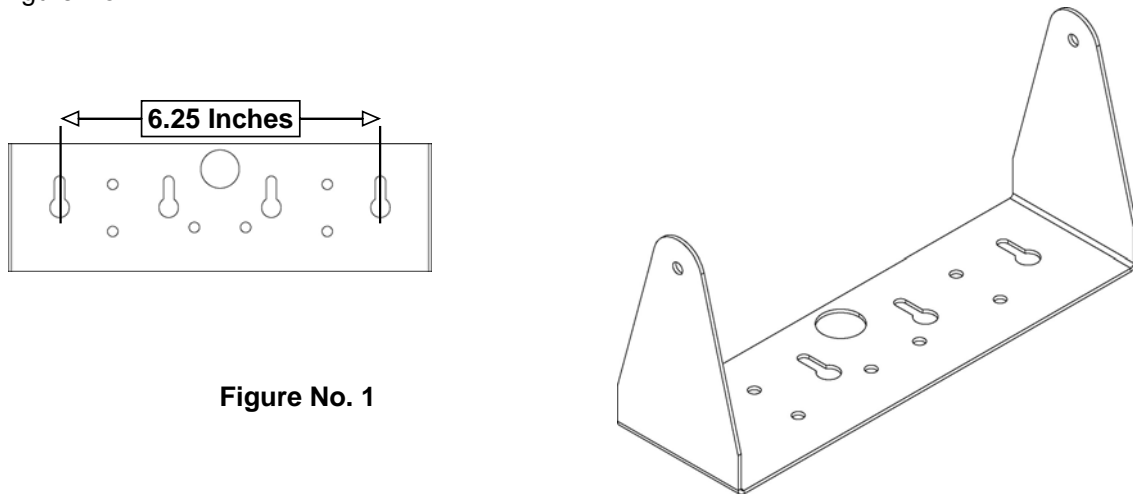

Figure No. 1
The 180 and 180EU indicator may come mounted on a column or you may choose to mount it on a desktop or wall. Refer to Figure No. 1 for illustrations of the mounting bracket. Two (2) holes are located in the mounting bracket for attachment to the wall. This bracket may be removed or left in place for desktop use.
The indicator may be mounted on a desktop or other smooth, flat, horizontal surface or it may be mounted on a wall using two (2) #10 screws placed 6.25 inches apart on the wall. Refer to Figure No. 1.